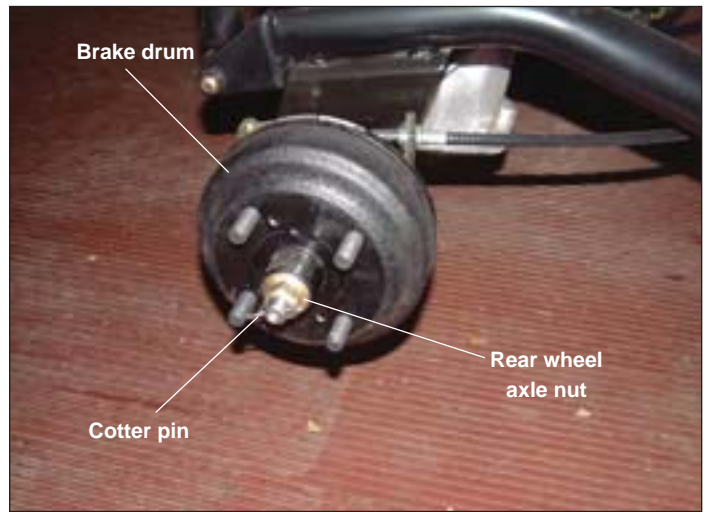

Figure 5-2. Rear Axle Nut
3. Remove axle nut and wheel hub (Figure 5-2)